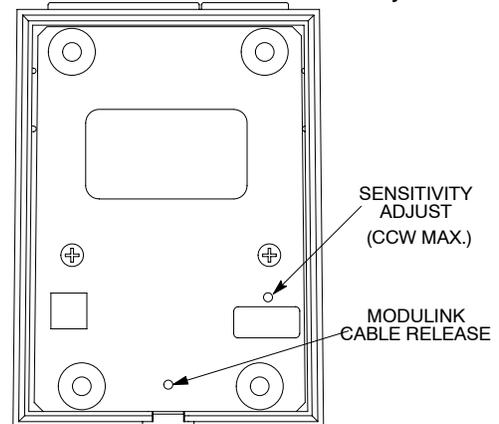

FIGURE 3
The cable is attached to the 550T Series II by inserting the modular telephone-type plug in the microphone jack until it locks. To remove the cable from the microphone, insert the small screwdriver supplied with the 550T Series II in bottom case hole adjacent to the cable jack (see Figure 3) to unlock the plug and withdraw the plug from the jack.
1. Insert a screwdriver into the sensitivity control potentiometer, located in the microphone base (see Figure 3).